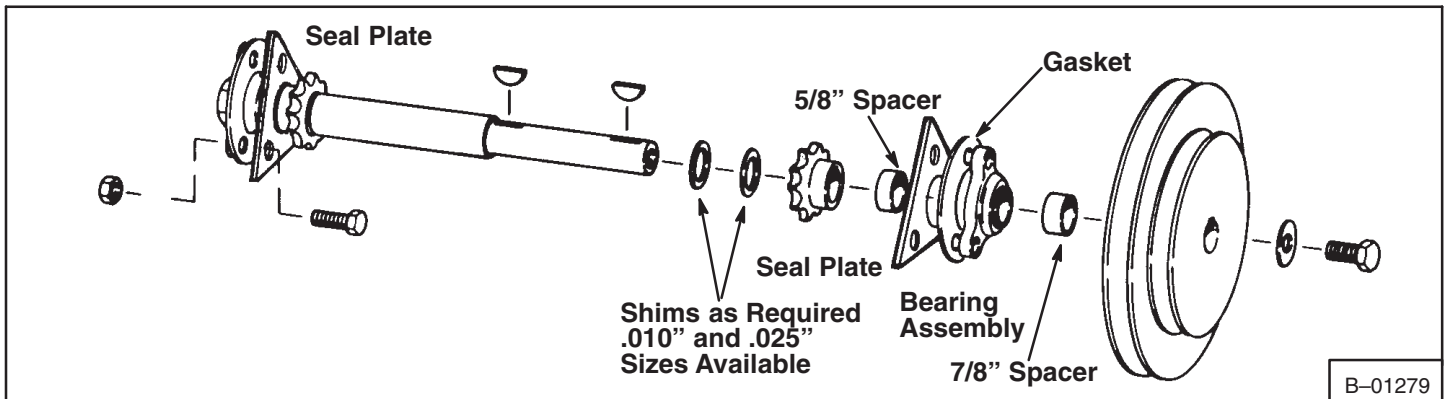

Fig. 100 Upper Jackshaft Breakdown
Pull the spacer off the end of the jackshaft. Note whether there are any spacers between the sprocket and the shaft shoulder (Fig.100). These spacers should be installed, as required, to obtain a negative (free) pre-load on bearings and, correct alignment.
Fig. 100 shows the breakdown of the upper jackshaft.
1. Reassemble the upper jackshaft in the order shown in Fig. 100. Install the shims, as required to obtain a negative pre-load.